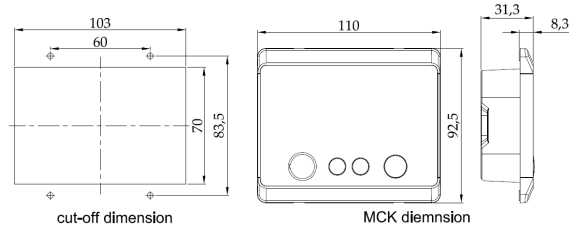

Fig. 4 Installation dimension of MCK(Unit: mm)
- 1)Cut holes on mounting surface following the cut-off dimension in Fig. 4.